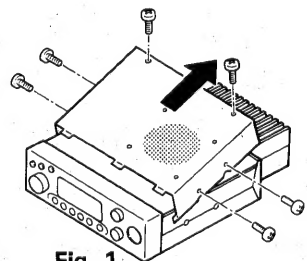

Fig. 1
2. Gently remove the top cover. (Fig.1)